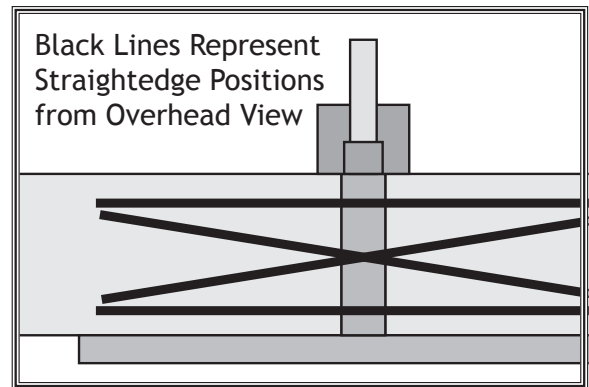

Figure 42. Straightedge positions for checking infeed/outfeed table parallelism.
4. Place straightedge in the positions shown in **Figure 42**. In each position, straightedge should sit flat against both outfeed table and infeed table.